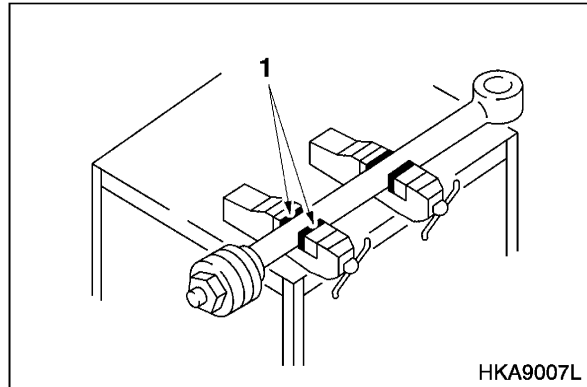

Figure 10
6. Install wood blocks (1, Figure 10) on the inside of the vise as shown so that the piston rod may not be damaged and clamp the rod for disassembly.